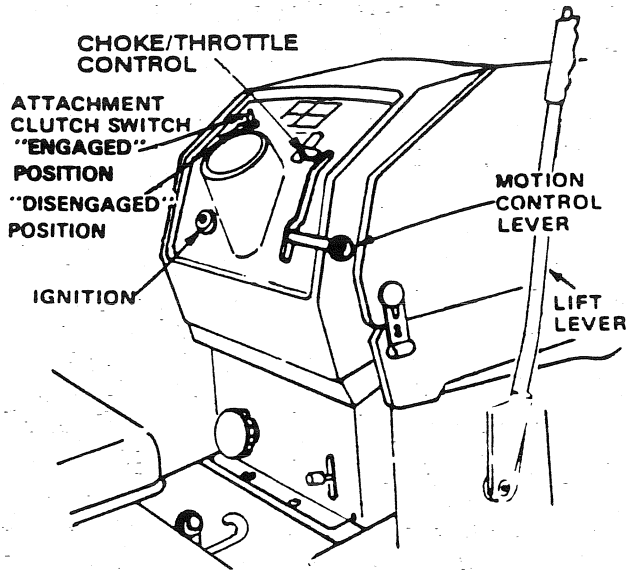

FIGURE 42
1. Place Attachment Clutch Switch in "DISENGAGED" position (Fig. 42)
2. Turn Depth Adjustment Knob to lowest position. Move Attachment Lift Lever (Fig. 42) forward to lower Mower to its lowest position.